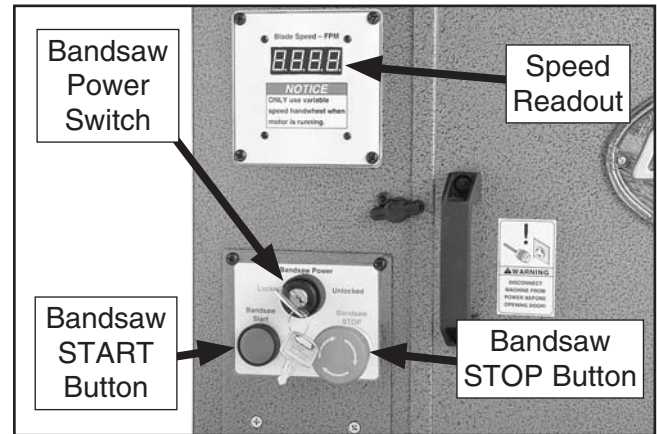

Figure 30. Bandsaw control panel.
5. Insert the key into the bandsaw power switch on the control panel (see **Figure 30**), and turn it to the Unlocked position to enable power to the bandsaw motor.